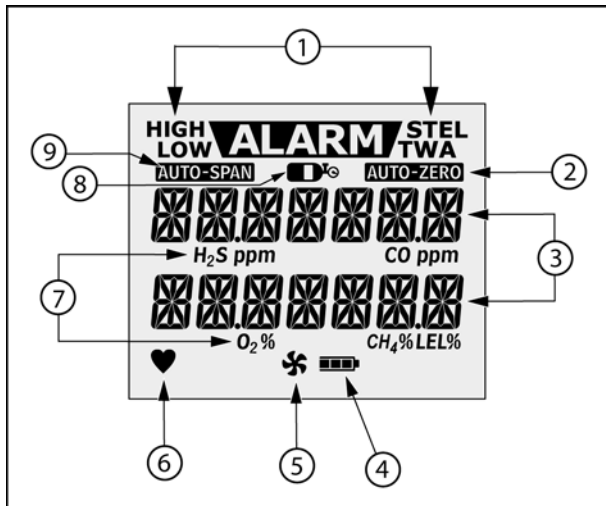

Figure 2. Display Elements
- Figure 2, and Table 4, describe the detector's display elements.